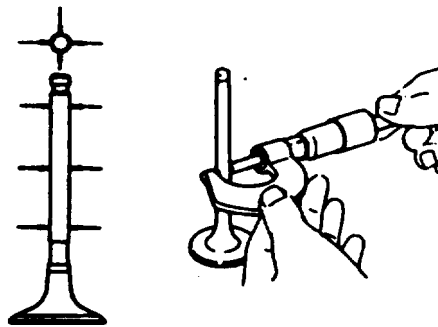

FIGURE 3-67. Valve Stem Outside Diameter
- (1) Using a micrometer, measure valve stem OD at three points, refer to FIGURE 3-67.